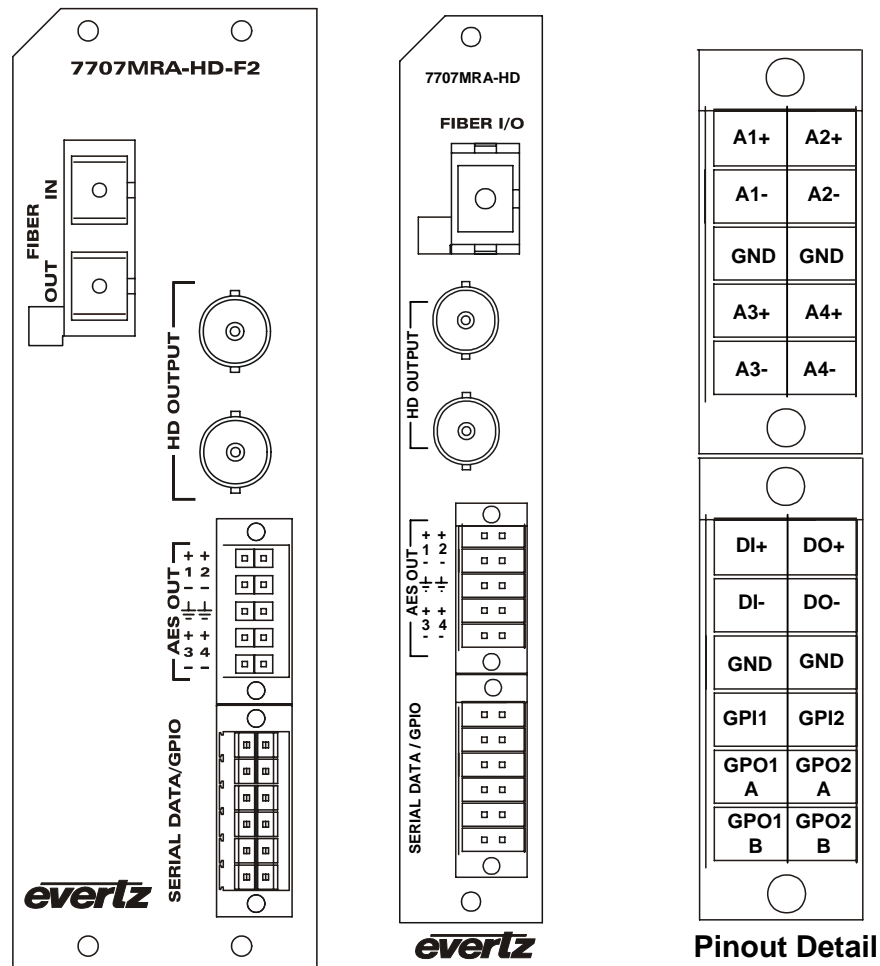

Figure 2-1: 7707MRA-HD Rear Plates & Pin Out
- Figure 2-1: 7707MRA-HD Rear Plates & Pin Out 3